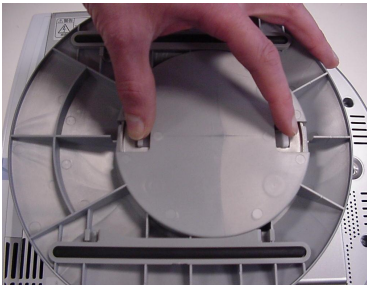
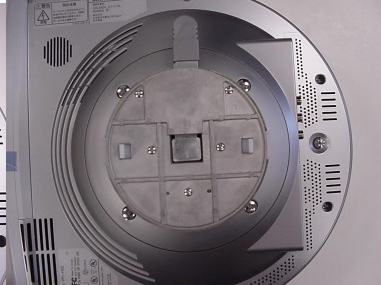
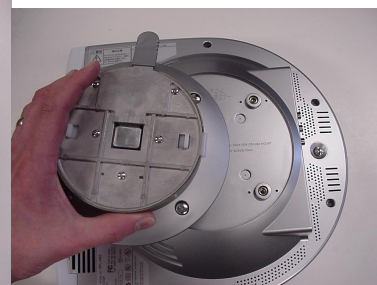

Fig 1.
Fig 2.
Fig 3.
2. Remove the base of the projector as seen in fig 1 by squeezing the two white tabs and lifting the base off. Now you can remove the four Philips screws as seen in fig 2 holding the rest of the base on. Then lift off the rest of the base to expose the four mounting holes as seen in fig 3.